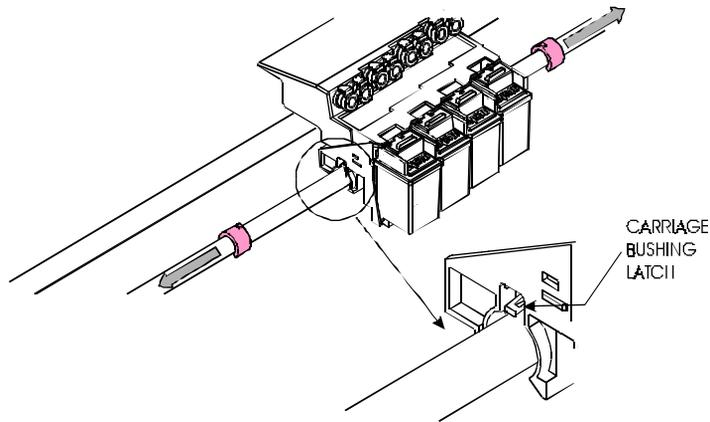

Figure 5-18. Carriage Bushing Removal.
2. Use a flat tip screwdriver to push up on the latch which holds the Carriage Bushing in place. See Figure 5-18.